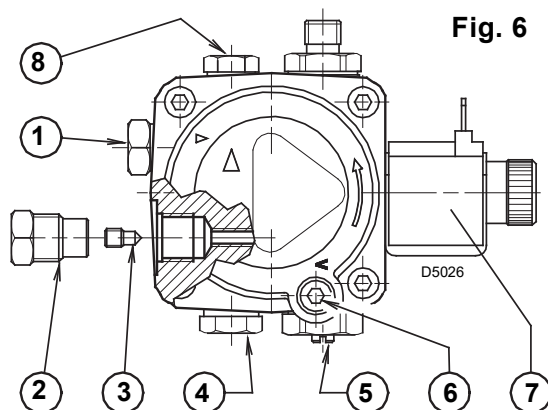
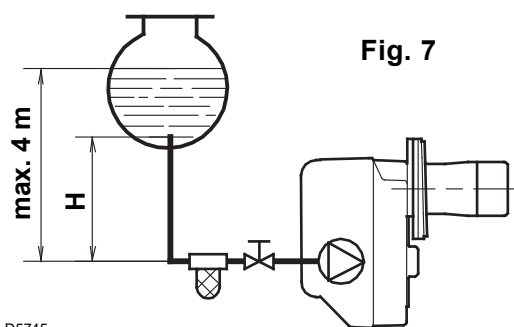

Fig. 6
Fig. 7
- The pump is designed to allow working with two pipes. In order to obtain one pipe working it is necessary to unscrew the return plug (2), remove the by-pass screw (3) and then screw again the plug (2). (See Fig. 6).
On the system in Fig. 7 it is sufficient to loosen the suction gauge connection (5, Fig. 6) and wait until oil flows out.